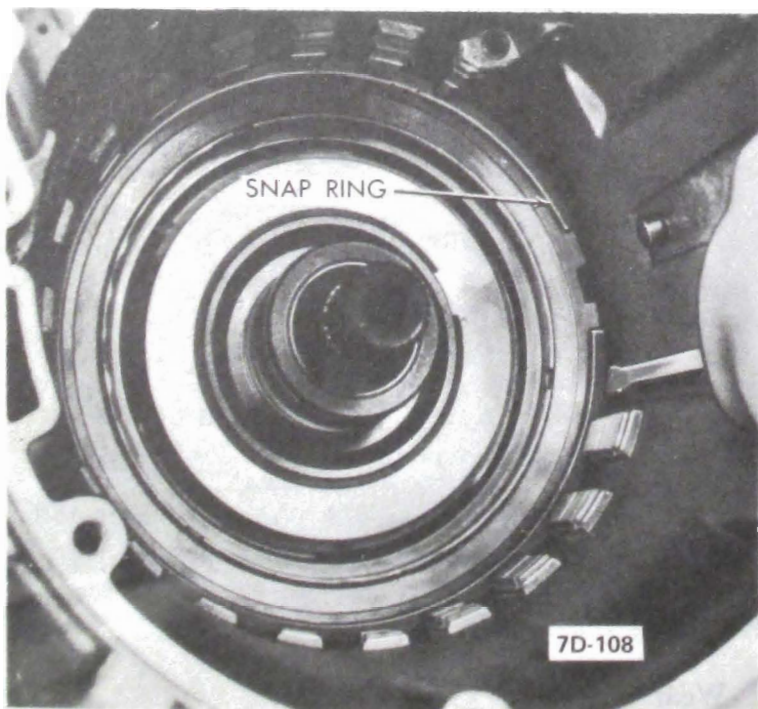

Figure 7D-108
15. Remove center support to case retaining snap ring. See Figure 7D-108.